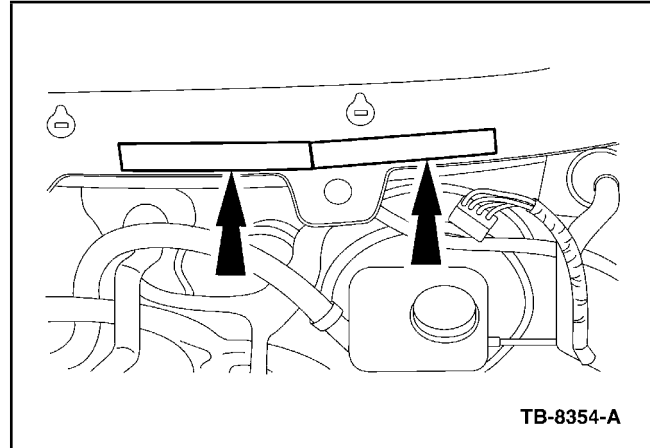

Figure 6 - Article 05-23-7
11. Place two of the cut pieces of the PVC soft foam adhesive stripes on the metal body surface over the transaxle area. The two ends need to touch, do not allow any gap between the two ends (Figure 6).